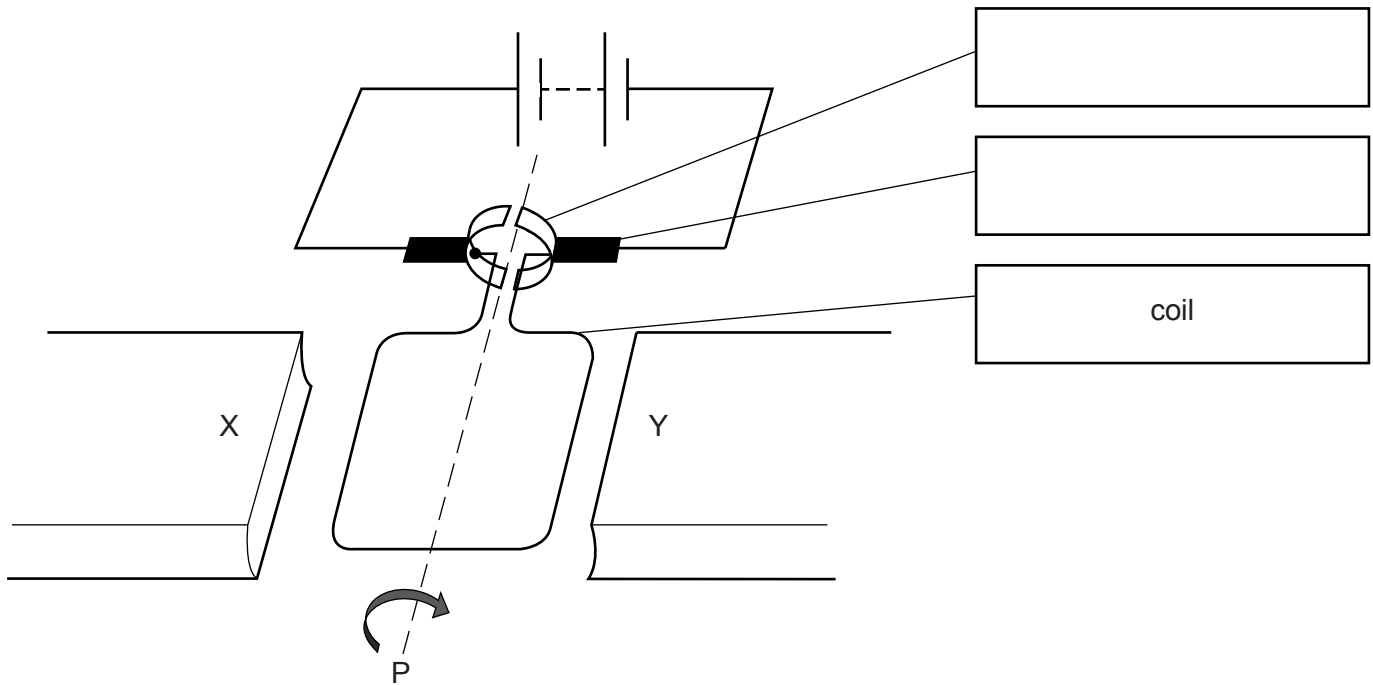

Fig. 9.1
- 1 Fig. 9.1 shows a simple electric motor with a single rectangular coil between magnetic poles X and Y.
- (a) (i) Add labels to the empty boxes to the right of Fig. 9.1, to identify the parts indicated. [2]
- (c) The battery in Fig. 9.1 is replaced with a resistor. The coil is made to rotate by an external mechanism.